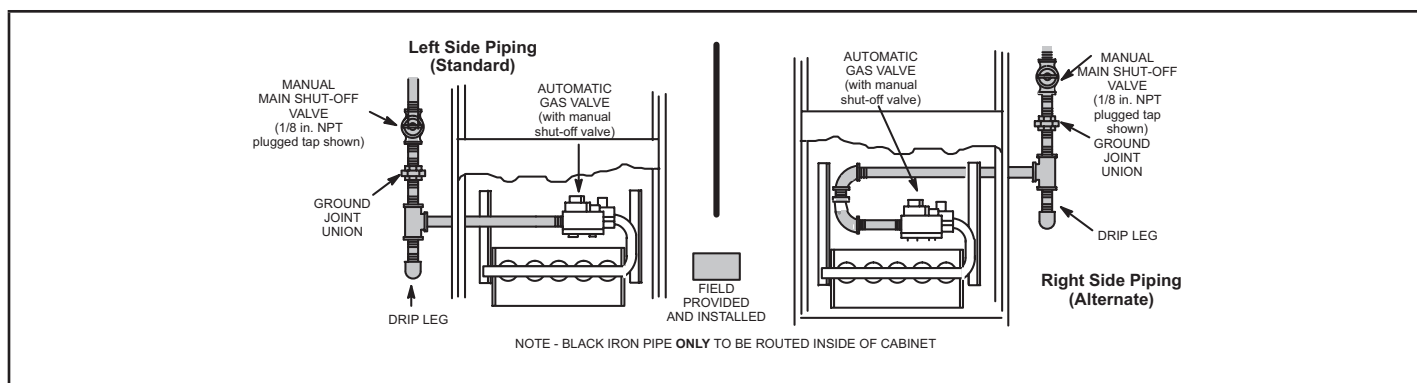

FIGURE 42
- 1 - Gas piping may be routed into the unit through either the left or right-hand side. Supply piping enters into the gas valve from the side of the valve as shown in figure 42. Connect the gas supply piping into the gas valve. The maximum torque is 800 in lbs and minimum torque is 350 in lbs when attaching the gas piping to the gas valve.
- 3 - Gas piping must not run in or through air ducts, clothes chutes, chimneys or gas vents, dumb waiters or elevator shafts. Center gas line through piping hole. Gas line should not touch side of unit. See figure 42.